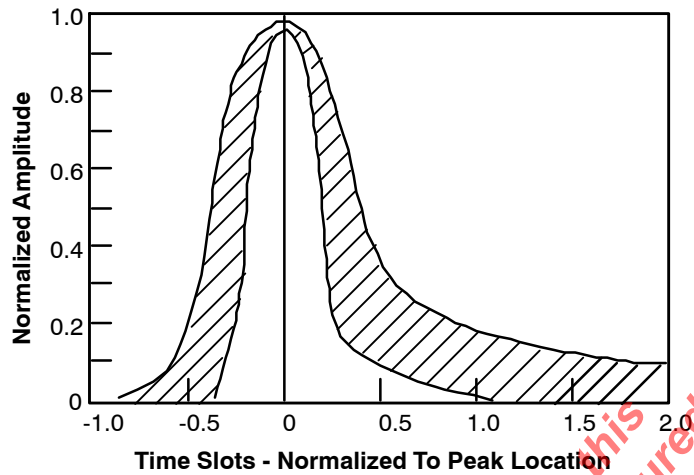
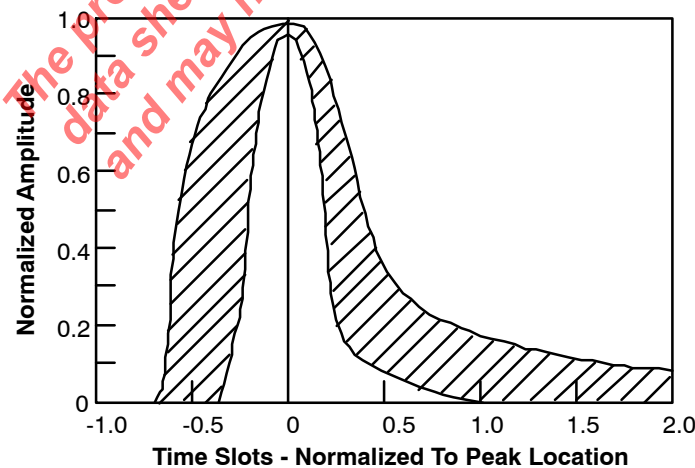

Figure 4. DSX-3 Isolated Pulse Template for ACCUNET T45 Standards
Figure 5. DSX-3 Isolated Pulse Template for G.703 Standards
requirements exist: the ACCUNET T45 pulse template (see *Table 2* and *Figure 4*) and the G.703 pulse template (see *Table 3* and *Figure 5*). *Table 2* and *Table 3* give the associated boundary equations for the templates. The XRT7295AT correctly decodes any transmitted signal that meets one of these templates at the cross-connect.
Pulse Shape	An isolated pulse must fit the template in NO TAG or Figure 5 . ¹ The pulse amplitude may be scaled by a constant factor to fit the template. The pulse amplitude must be between 0.36v _{pk} and 0.85v _{pk} , measured at the center of the pulse.
- ¹ The pulse template proposed by G.703 standards is shown in *Figure 5* and specified in *Table 3*. The proposed G.703 standards further state that the voltage in a time slot containing a 0 must not exceed 5% of the peak pulse amplitude, except for the residue of preceding pulses.
Table 2. DSX-3 Pulse Template Boundaries for ACCUNET T45 Standards (See *Figure 4*.)
Table 3. DSX-3 Pulse Template Boundaries for G.703 Standards (See Figure 5)